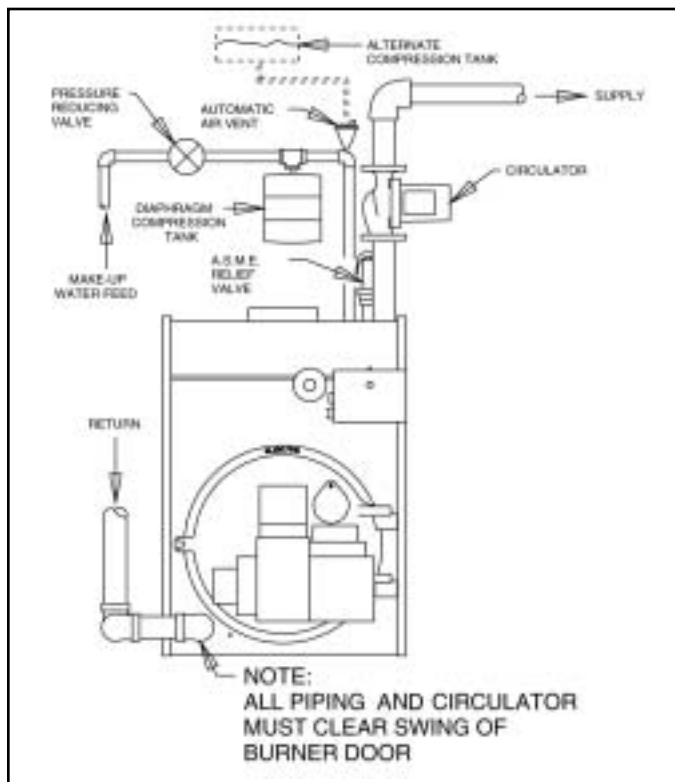
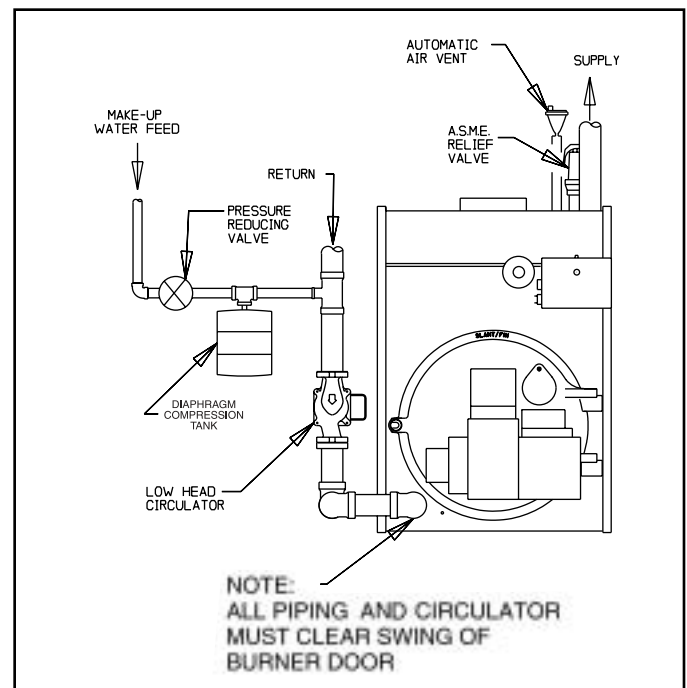

Figure 5. Air Eliminating System or Alternating Collecting System
Figure 6. Alternate Air Eliminating System
- A. **DIAPHRAGM-TYPE COMPRESSION TANKS** are used to control system pressure in an **AIR ELIMINATING SYSTEM**: an automatic air vent is used to REMOVE air from the system water. (See figures 5 and 6)
the boiler, as in figures 5 and 6 and at radiation high points (see "C").
- B. **CONVENTIONAL COMPRESSION TANKS** (non-diaphragm type) are used to control system pressure in an **AIR COLLECTING SYSTEM**. Within the system, after initial start-up and venting, air is collected in the tank and acts in contact with the water to control pressure (see dashed area in figure 5 and paragraph "E"). Air is not vented from this system except at radiation high points (see "C").
If system pressure needs further control, add another tank in parallel with the original tank or install a large capacity tank. Locate the tank at the inlet end of the pump near the boiler. (See figure 5)
- D. **PUMP LOCATION** - Locating low-head pump(s) on return to boiler is only acceptable in residences of one or two stories. (See figure 6) The pump location shown in figure 5 is required in large, multi-story building installations, especially when high-head pumps are used and is also recommended for all applications.
- E. A conventional compression tank may be connected directly to the 1/2" tapping on the boiler (see "Alternate Compression Tank", figure 5).
The circulator pump should be located on the boiler supply pipe and the expansion tank and air scoop should be located near the pump suction. (as shown in figures 5 and 6) For alternate circulator pump location on return for low-head pumps and one or two story buildings ONLY (see figure 6).